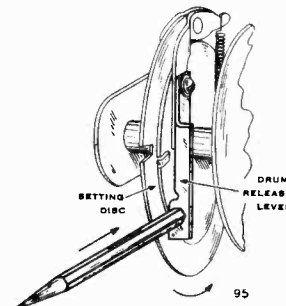

Fig. 13—Adjusting Position of Brake Drum
(106) This condition is easily corrected as follows: Turn the electric-manual lever to the manual position. Then turn the tuning knob and observe the setting disc corresponding to the button on which the above condition takes place. Stop turning the knob when disc is in position shown in Fig. 13.
(107) Then with the flat end of a long pencil or thin piece of wood, carefully depress the drum release lever (Fig. 13) and rotate the setting disc about one inch in the direction shown by the arrow.